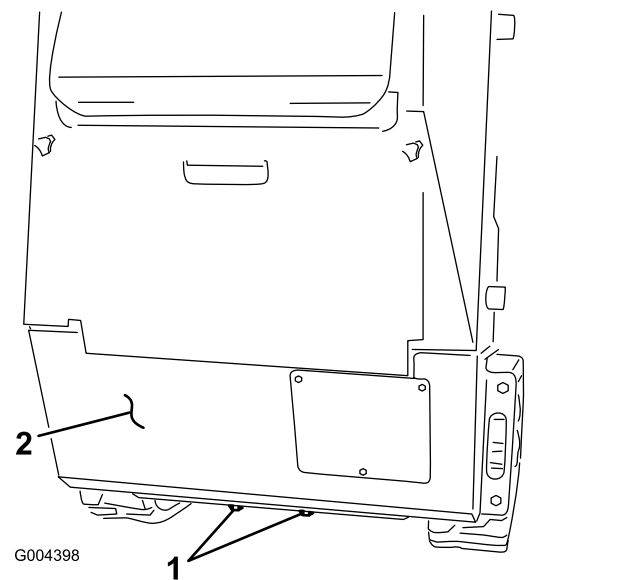

Figure 2
1. Check and tighten the bottom 2 bolts securing the lower rear panel to the frame (Figure 2).
Important: Do not remove the rear panel (Figure 2).